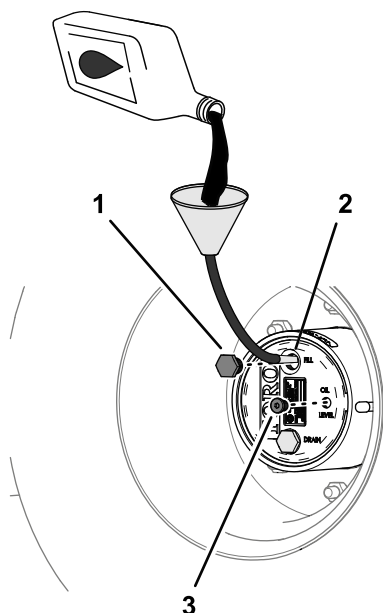

Figure 98
4. If the lubricant level is low, remove the fill plug and add the specified lubricant until it begins to flow out of the check-plug hole (Figure 98); refer to Planetary-Gear-Drive Lubricant Specification (page 69).
6. Install the fill plug and the check plug (Figure 98).
1. Through the fill-plug hole, slowly add the specified gear lubricant; refer to Figure 98 in Checking the Planetary-Gear-Drive Lubricant (page 69).
3. Install the fill plug and check plug; refer to Figure 98 in Checking the Planetary-Gear-Drive Lubricant (page 69).